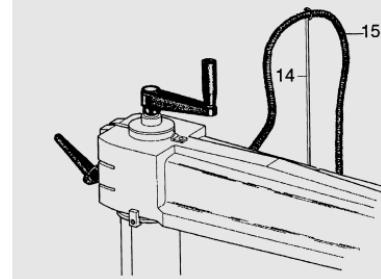

Fig.9
- Now fasten spring (14) to the arm by using the screw screwed in the arm itself. Slide motor electrical cable (15) through the eye of the spring as shown in fig. 9.